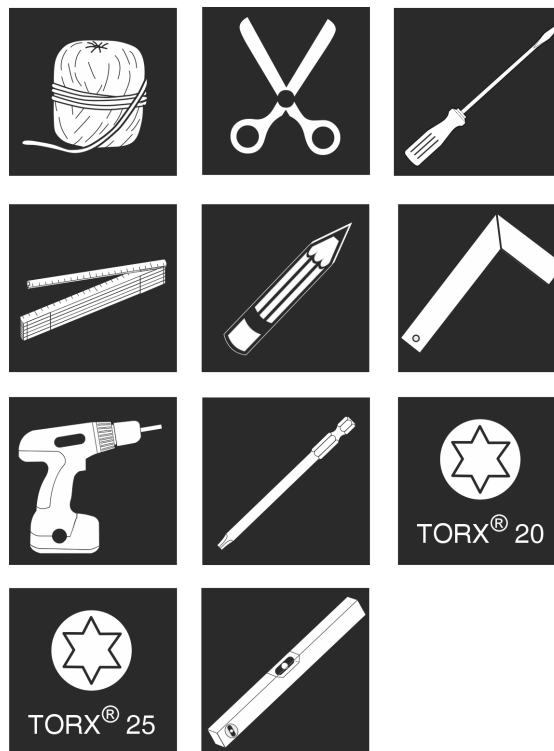

Fig. 8
1. Have your tools ready. Fig. 8 ()